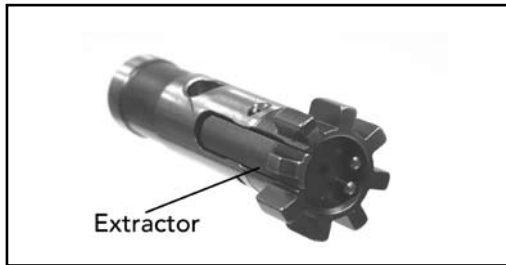

Fig. 43 – Bolt Head
g. Further disassembly of the bolt head, including removal of the extractor is not recommended (Fig. 43).